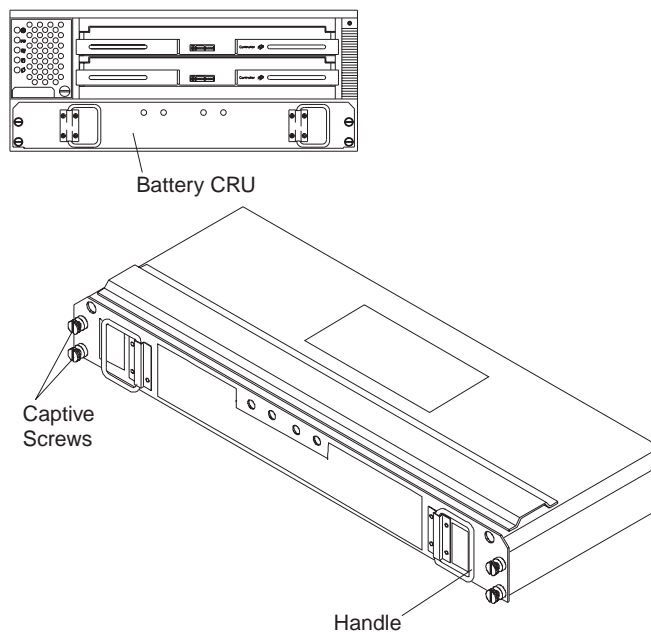

Figure 30. Battery CRU
- One battery CRU (see Figure 30 on page 48)